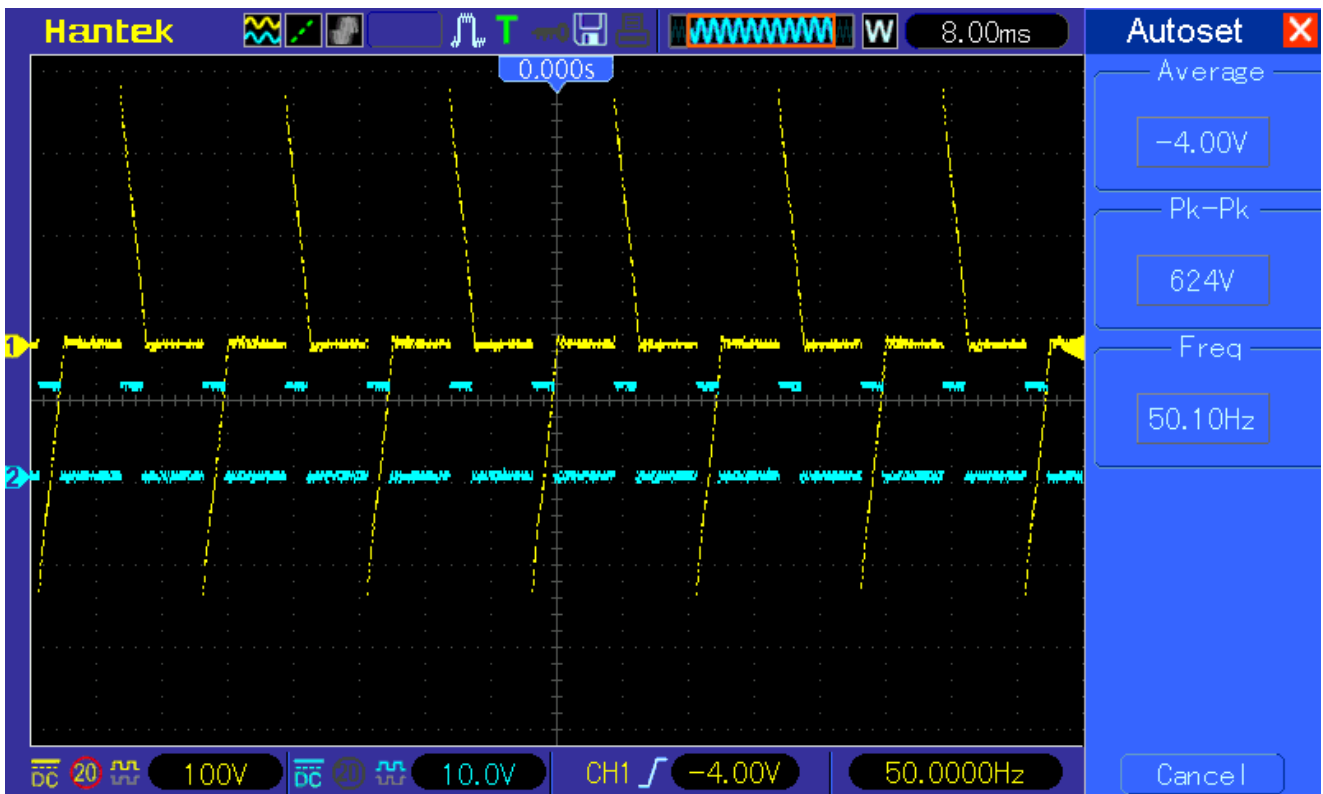

Figure 12 : PWM at 30%
11. Click on tools tab, move mouse pointer to “Port: “COMx”, under this click on “COMx” to select. (“x” refers to port number available in your computer) Refer to figure 12.